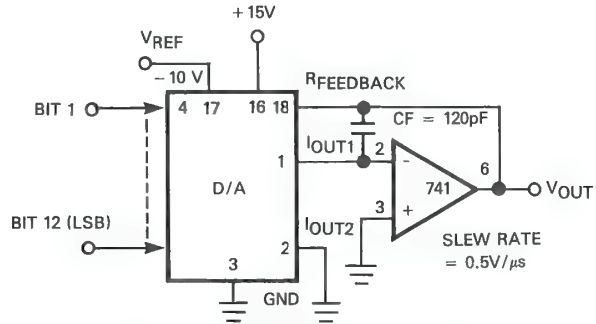

Figure 9. DAC Circuit Using 741 Op Amp
The circuits and waveforms shown in Figures 9 to 14 are representative of the three principal types of output amplifiers: a general purpose low drift (741), a fast settling, high speed, low cost op amp (LF 356), and a fast settling unit (AD509).